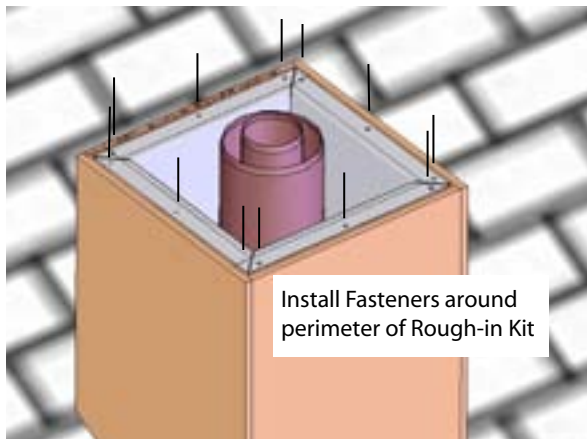

Figure 11c. Fasten Rough-in Kit to framing
Step 4: Install screws around perimeter of Rough-in Kit. Drill holes supplied for ease of installation, see **Figure 11c**.